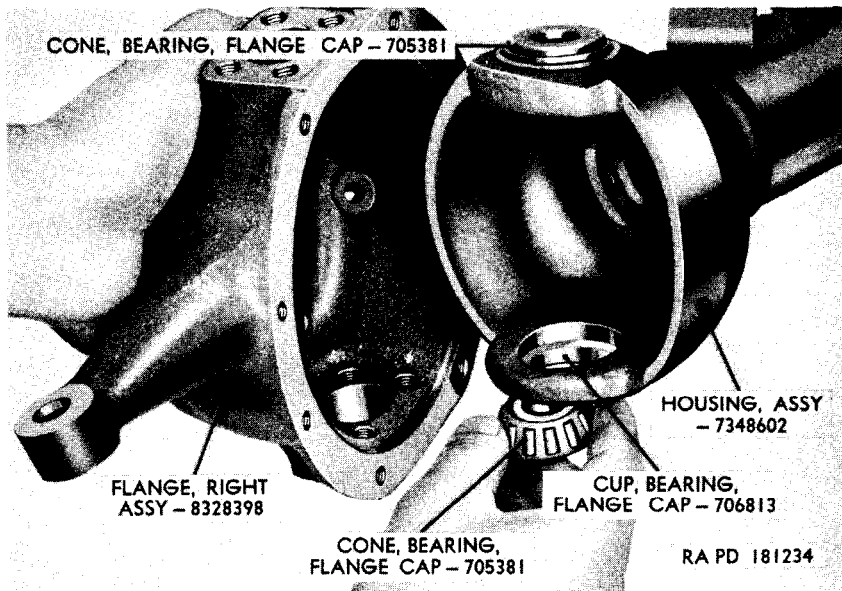

Figure 98. Removing front axle steering knuckle flange.
c. Remove Steering Knuckle Oil Seal (fig. 95). Remove the 8 lockwasher screws (Y) securing the 2 halves of the steering knuckle oil seal retainers (T and X) to the steering knuckle flange. Remove the two steering knuckle oil seal retainers (T and X), oil seals (R and V), and oil seal springs (S and W). Discard the steering knuckle flange oil seal gasket (K). Remove the steering knuckle flange from tube end of housing (fig. 98) and remove the two steering knuckle flange cap bearing cones.